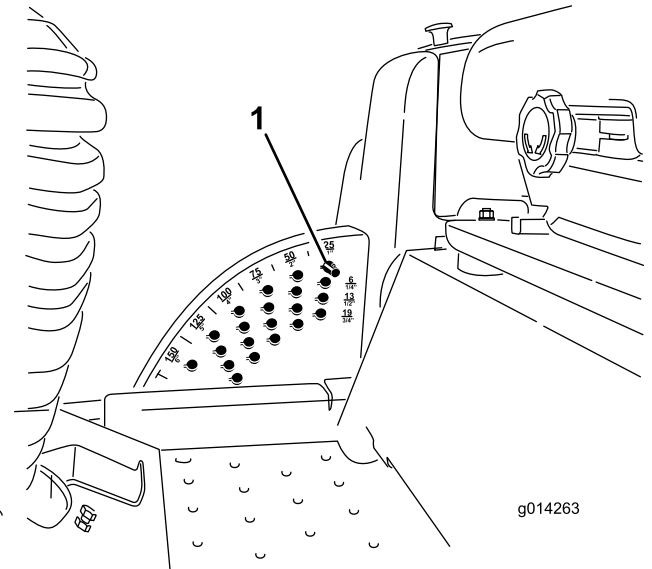

Figure 24
1. With the engine running, push back the deck-lift switch until the mower deck is fully raised, and **release the switch immediately** as shown in Figure 24.
2. Rotate the height-of-cut pin until the nub on it lines up with the slots in the holes in the height-of-cut bracket and remove it (Figure 24).
3. Select a hole in the height-of-cut bracket corresponding to the desired height of cut, insert the pin, and rotate it down to lock it in place (Figure 24).
Note: There are 4 rows of hole positions (Figure 24). The top row gives you the height of cut listed above the pin. The second row down gives you the height listed plus 6 mm (1/4 inch). The third row down gives you the height listed plus 12 mm (1/2 inch). The bottom row gives you the height listed plus 18 mm (3/4 inch). For the